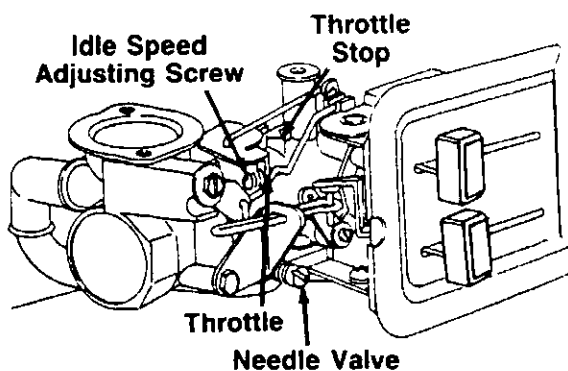

FIGURE 18.
1. Close needle valve (see figure 18) clockwise (↻) finger tight only. Forcing may cause damage. Then open 1½ turns counterclockwise (↺).